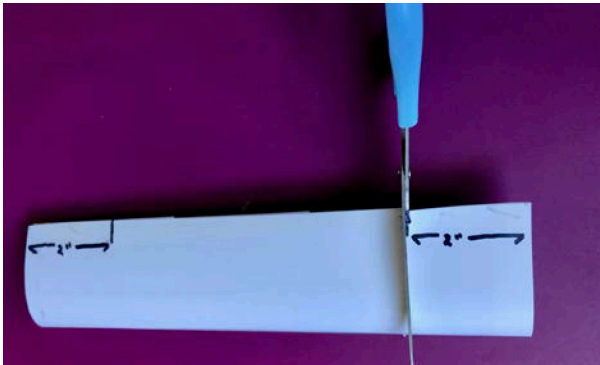

Figure 3: Make a 1/2-inch long cut about 2 inches from the end.
- Make a 1/2-inch (1.3-cm) cut into the taped edge of the wing at about 2 inches (5 cm) in, on both ends, to form ailerons. See Figure 3.